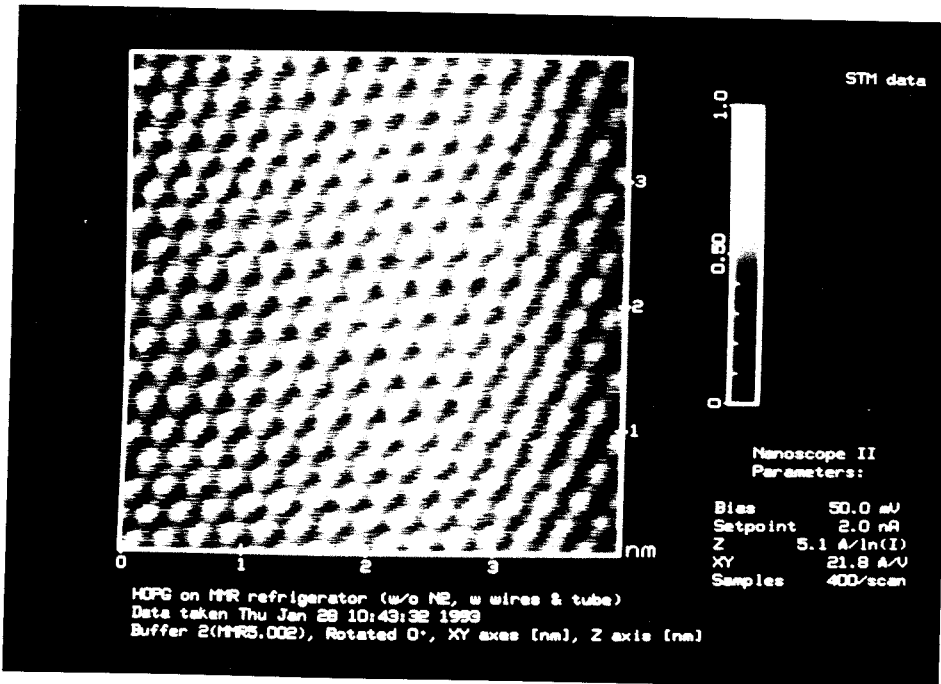

FIGURE 6
- Figure 6:** STM image of graphite film with no gas flowing through the refrigerator. The carbon molecules have a spacing of 2.4 angstrom.